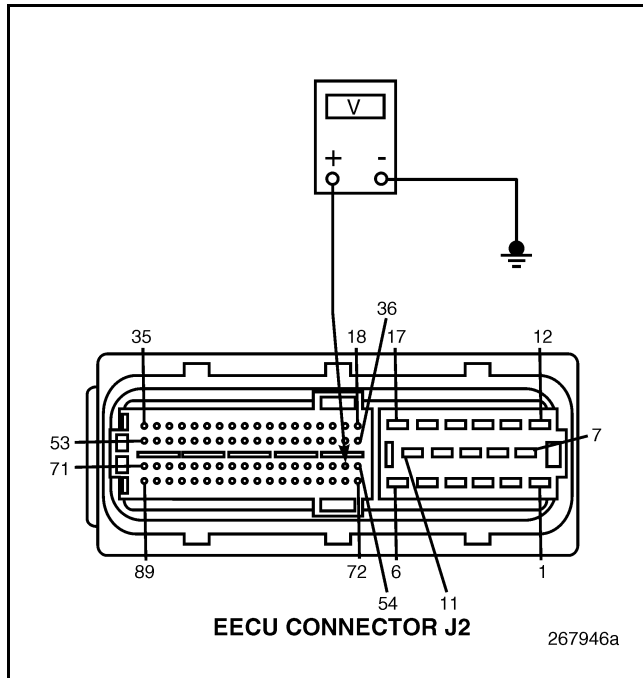

Figure 368
4. Measure the voltage between EECU connector J2 pin 55 and a good ground (see Figure 368).